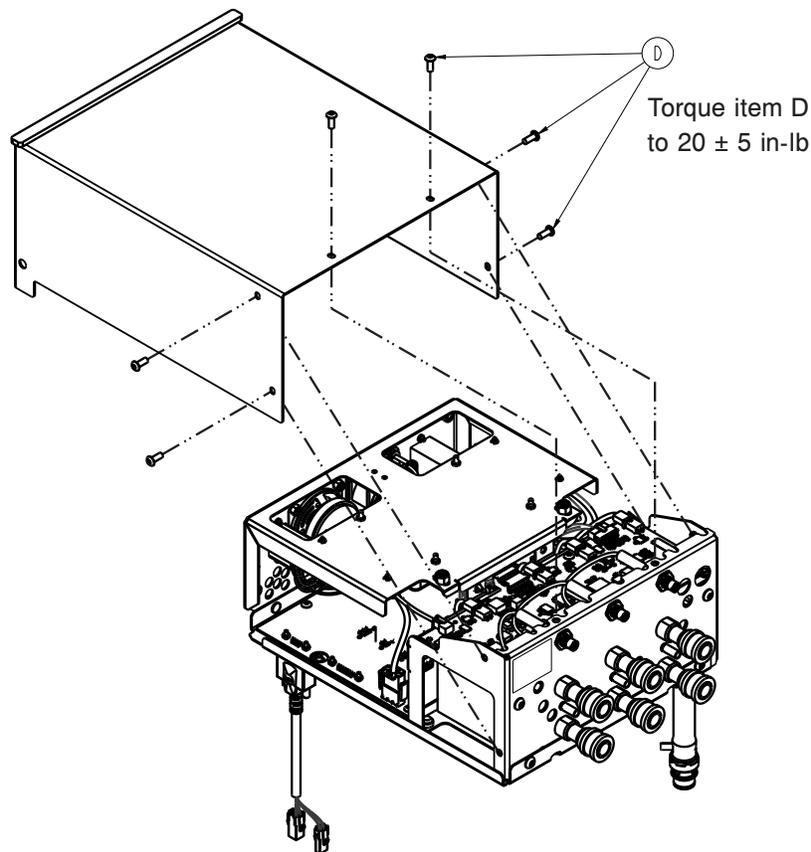

Figure 35 – Control box cover
15. Using a T25 Torx driver, remove the six screws (D) from the control box cover (Figure 35). Save the screws.